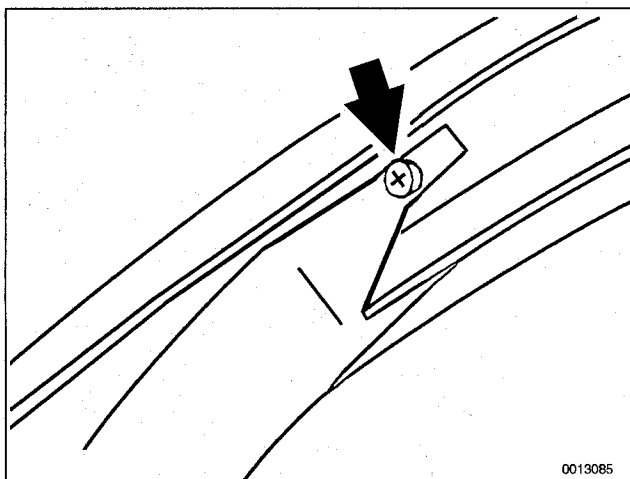

Fig. 8. Remove guide rail screw (A) and move rail aside.
3. Remove guide rail screw at top and move rail aside enough to slide glass forward and out of door frame. See Fig. 8.